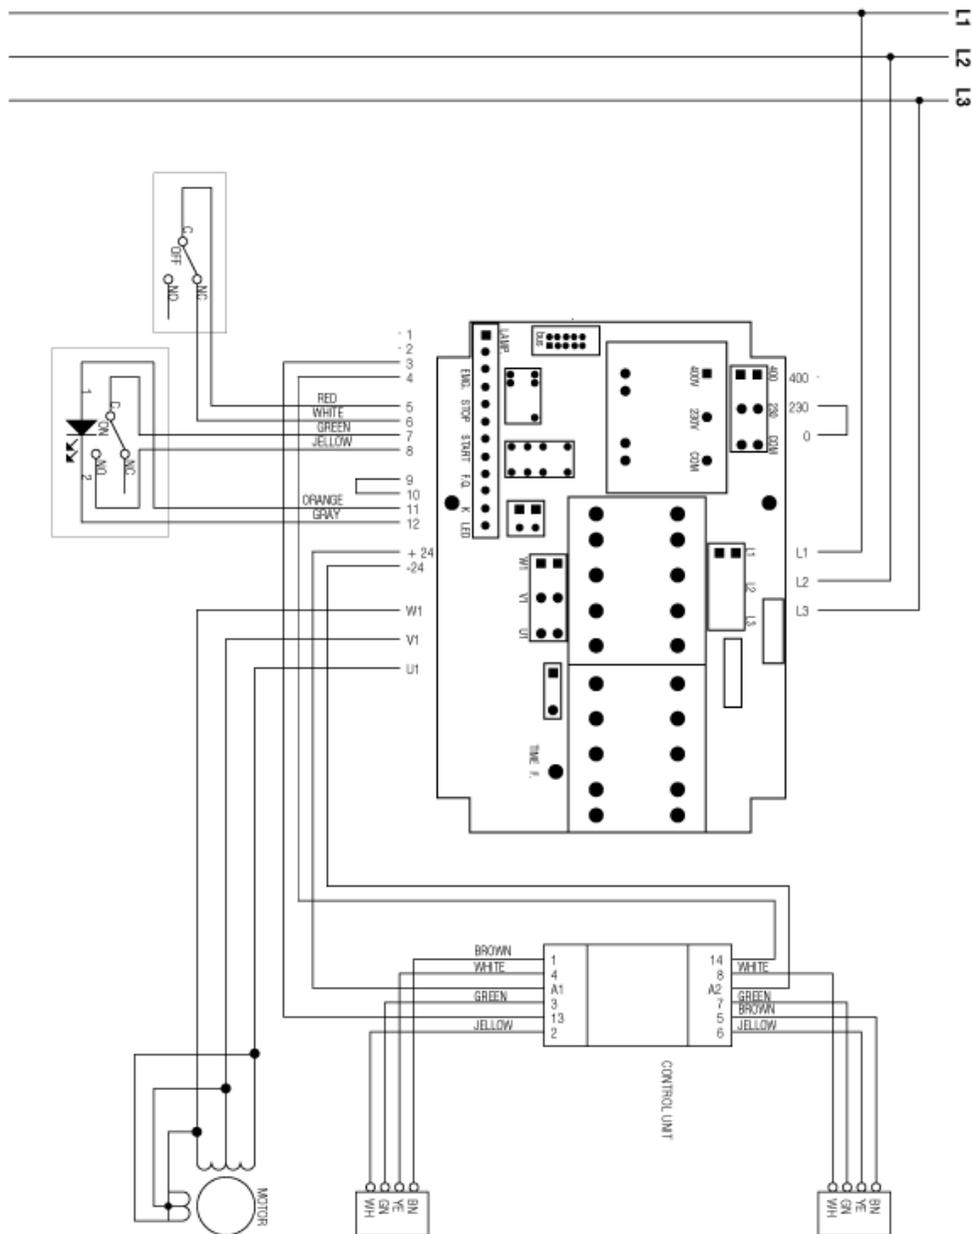

Fig. 2.6.3
2.5.3 - Three-phases wiring diagram at 230 V (fig. 2.6.3)